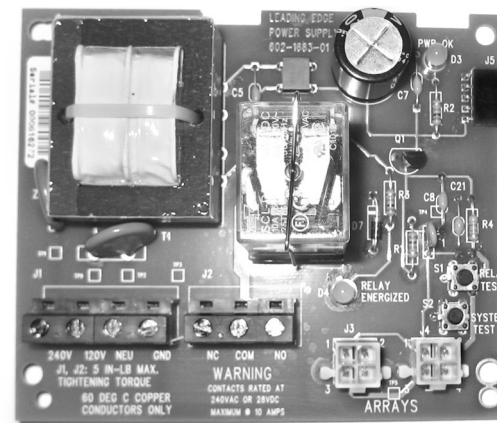

FIGURE 4a
Mount Power Supply/Controller PC assembly into the enclosure using four (4) 6/32 screws provided (see Figure 4a).